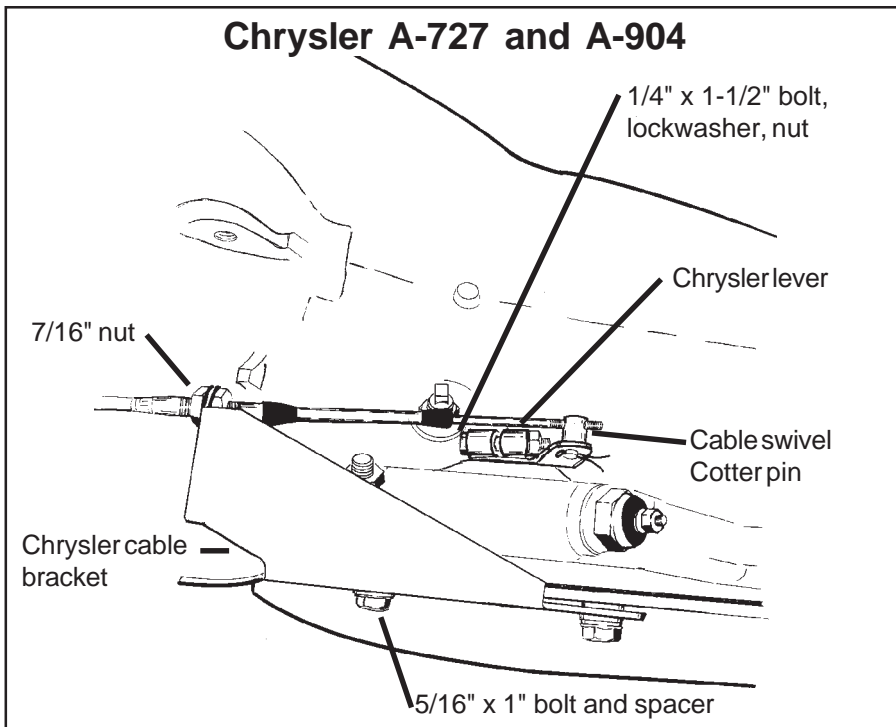

Figure 8
STEP 21. If you have not already done so, loosen the pinch bolt on the throttle lever on the transmission. This is the lever on the small diameter shaft. Pry the lever off with a screwdriver and allow the linkage to hang free. Remove and discard the stock shift lever and the stock shift linkage. Install the **B&M** selector lever in position and tighten the pinch bolt securely (See Figure 8). Make sure the lever is not pushed down so far as to touch the transmission case. This will cause the lever to bind on the case. The lever should travel smoothly from front to back with a positive click in each gear position. Install the stock throttle lever in position on the small diameter shaft as removed and tighten the pinch bolt securely. The throttle lever must operate smoothly.
STEP 22. Remove the two transmission oil pan bolts directly below the shift lever. Install the cable bracket in position (See Figure 8) with two spacers between the pan and the bracket. (If your transmission is equipped with a cast aluminum oil pan these spacers can be omitted.) Install the two 5/16-18 x 1.00" pan bolts supplied and tighten to 12-13 lb.ft. Do not overtighten as this can damage the pan gasket.